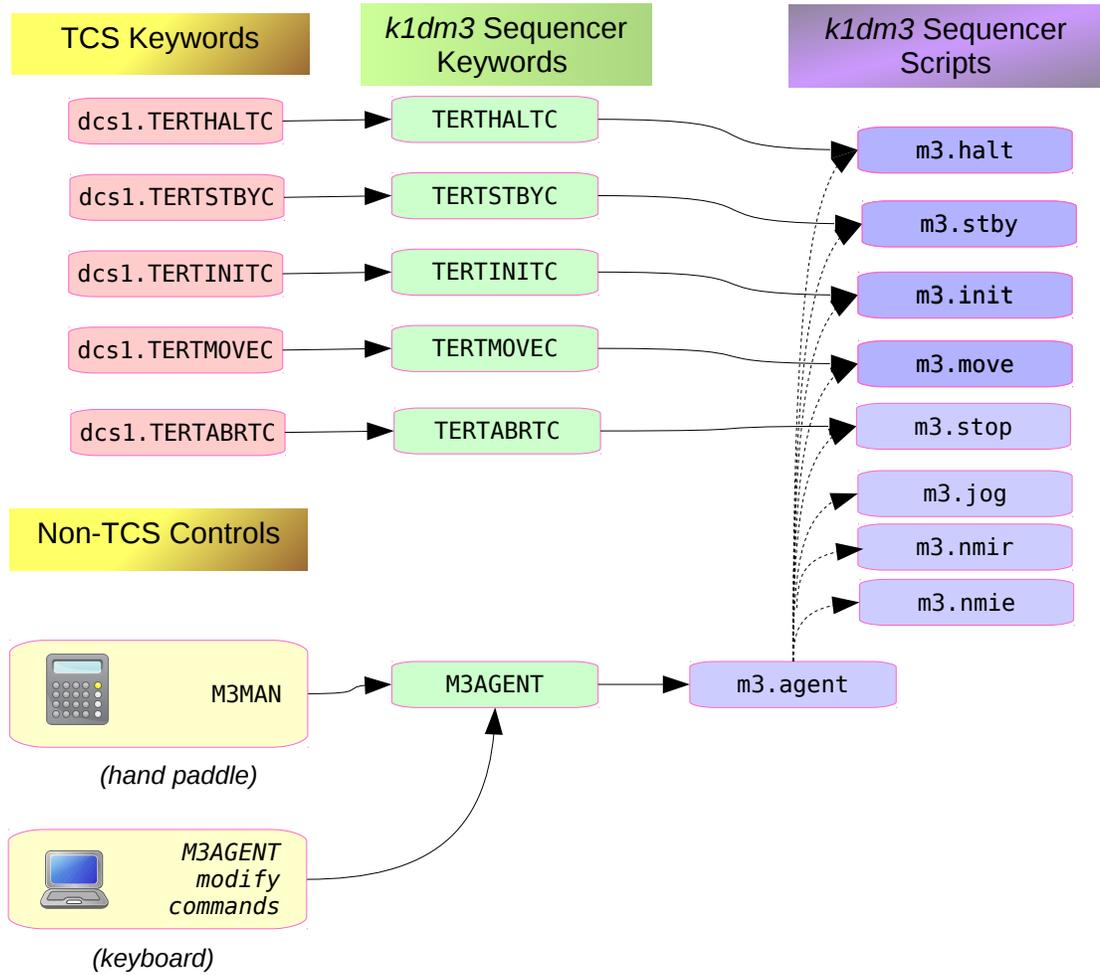

Figure 4.1: High Level Control Flow
- **TCS.** Whenever K1DM3 is installed in the tertiary tower, its dispatcher monitors and responds to TCS demands. This is the most common mode of use. As illustrated in figure 4.1, when one of the TCS **TERTxxxx** keywords is set, the value is immediately mirrored in the *k1dm3* keyword of the same name. In turn, the change of the *k1dm3* keyword triggers the execution of the corresponding sequencer script.
- **M3AGENT.** The sequencer keyword **M3AGENT** supplies an all-in-one interface for commanding the module (see figure 4.1). Depending on the value that is written to it, it can invoke one of the “M3” sequencers that execute moves to any named position, TCS demands, hand paddle commands, or a special “no-move-init” action that can usually initialize the drum with no motion. This keyword is recommended as the standard interface for nearly all actions carried out by scripts and GUI’s.